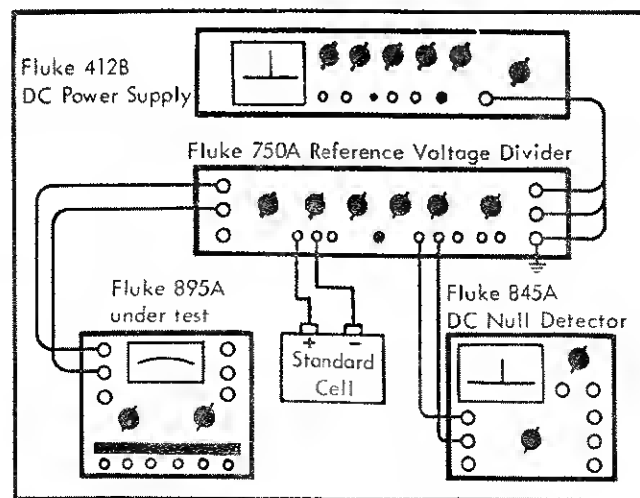

Figure 4-3. SOURCE FOR TEST VOLTAGES
(1) Equipment connection is illustrated in Figure 4-3. Connect the 845A to the null detector terminals of the 750A, and connect a standard cell to the standard cell terminals of the 750A.